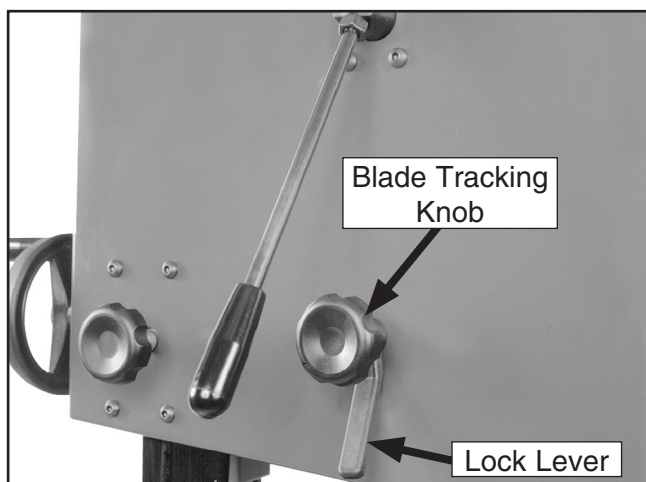

Figure 20. Blade tracking controls.
- Loosen the lock lever shown in **Figure 20** so that the blade tracking knob can rotate.